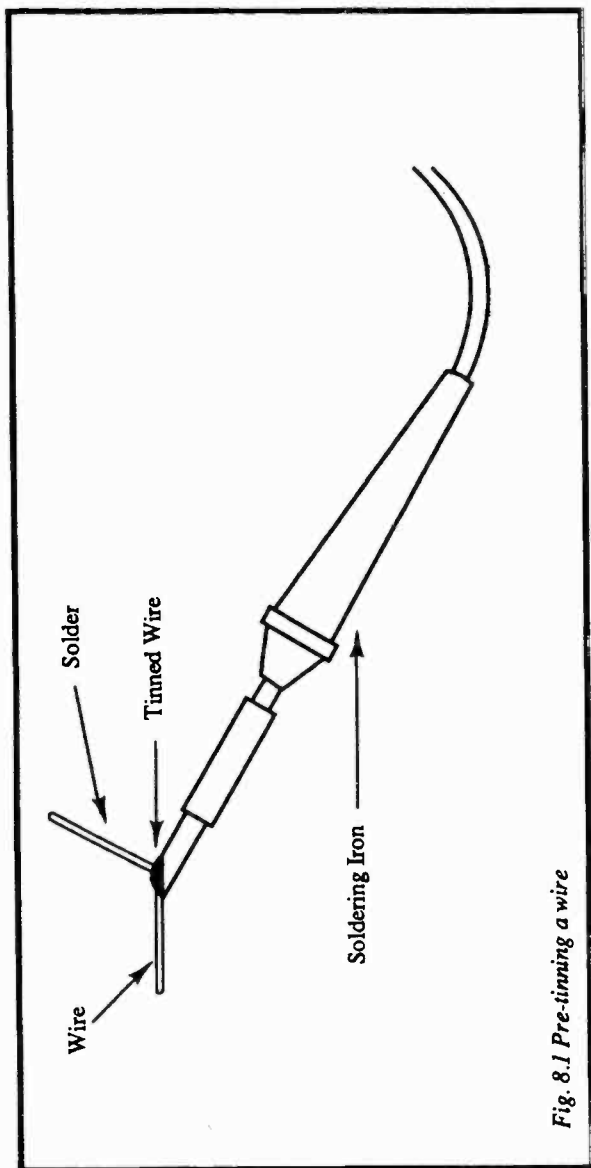

Fig. 8.1 Pre-tinning a wire
1. Tin the Wires to be Soldered (Figure 8.1) The purpose of pre-tinning the wires is to enable the soldering iron to make the final joint without the need to apply additional solder. You will need to use a soldering iron bit of at least 3mm for this process. A 1mm or 1.5mm bit is too small and will only cause a dry joint. Proceed as follows: